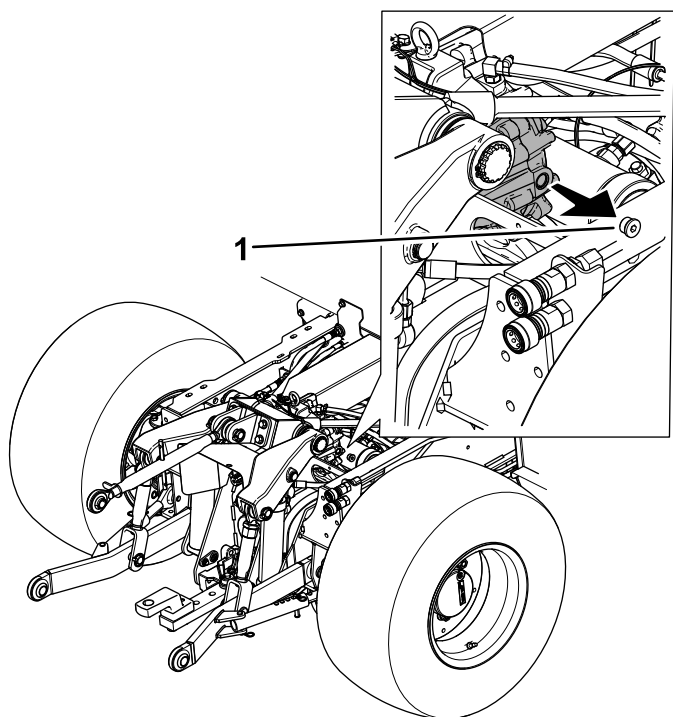

Figure 108
2. Remove the plug from the sight port of the rear PTO gearbox (Figure 108).